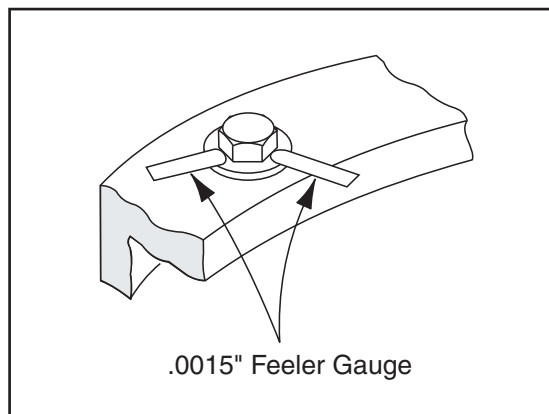

Figure 3-12. Swing Bearing Bolt Feeler Gauge Check
2. At the positions indicated on Figure 3-12., Swing Bearing Bolt Feeler Gauge Check, try and insert the 0.0015" feeler gauge between the bolt head and hardened washer at the arrow indicated position.
4. At the position indicated on Figure 3-12., Swing Bearing Bolt Feeler Gauge Check, try and insert the 0.0015" feeler gauge between the bolt head and hardened washer at the arrow indicated position.